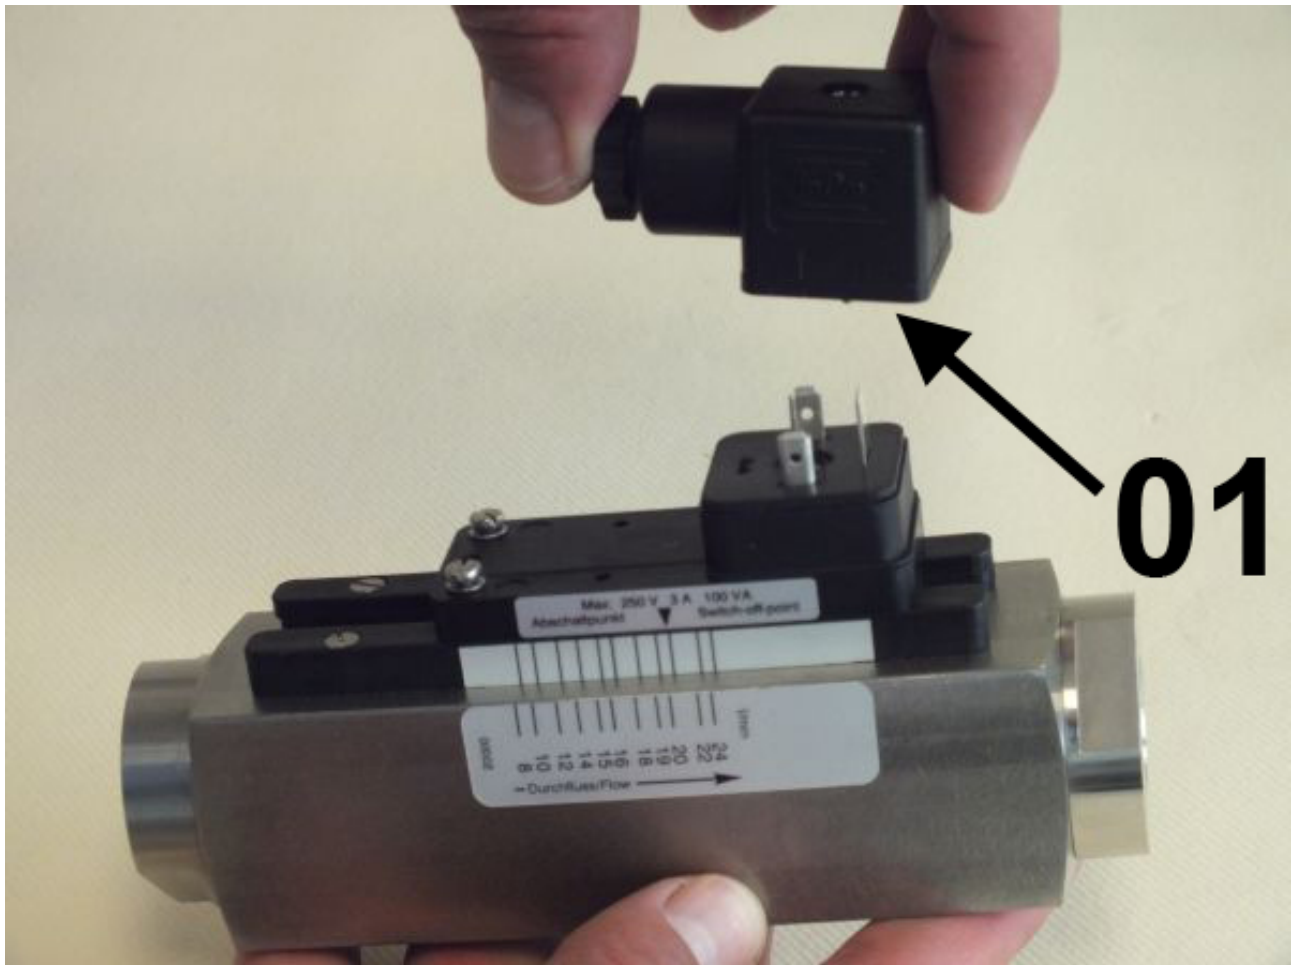

Fig. 67: Remove female socket
2. ➤ Remove the female socket and gasket (Fig. 67/01) by pulling upwards.